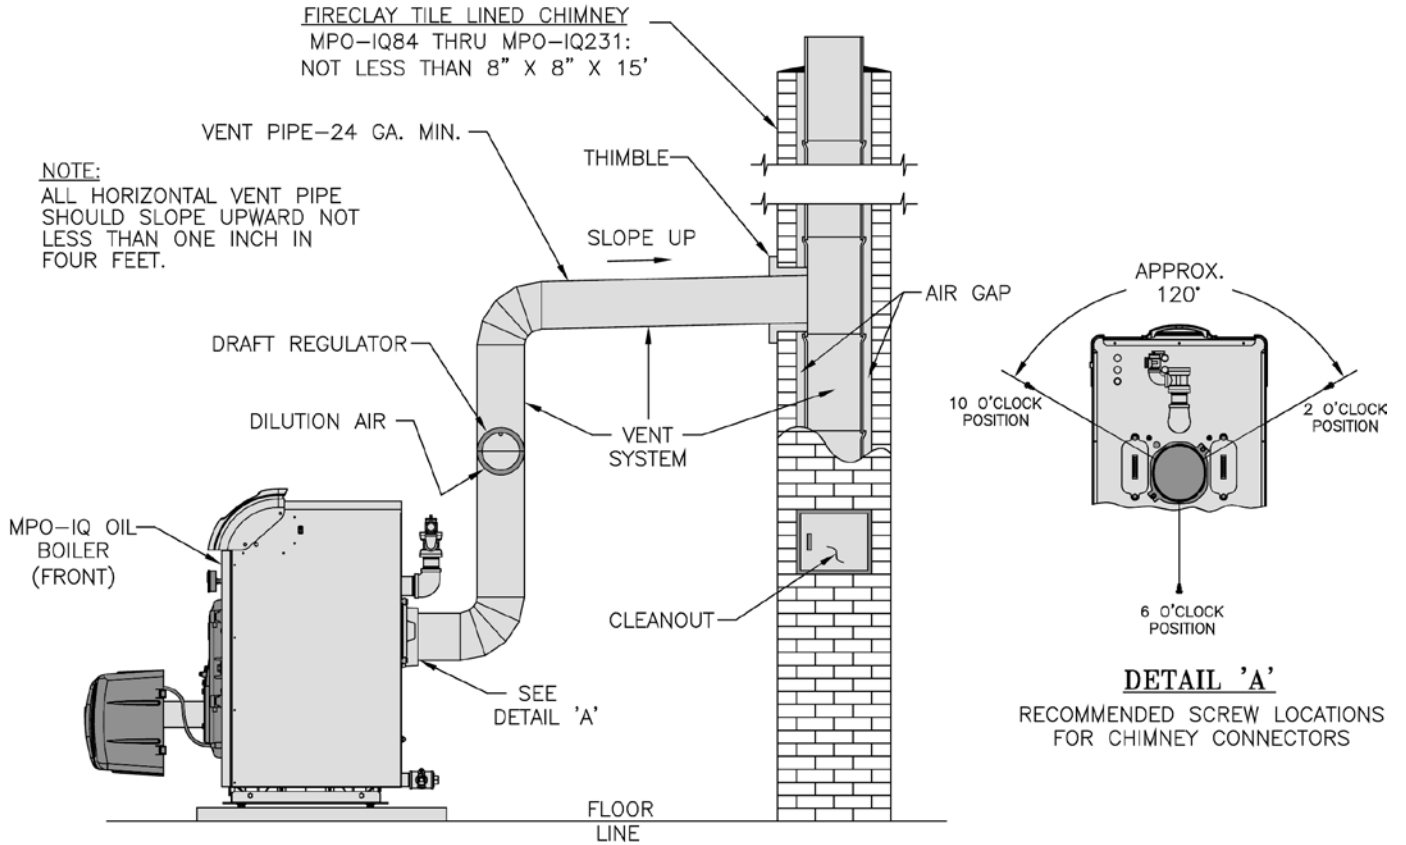

Figure 13: Recommended Vent Pipe Arrangement and Chimney Requirements
5. Draft Regulator – the draft regulator supplied with the boiler (or equivalent) must be used with this appliance. Refer to Figures 13 and 14.